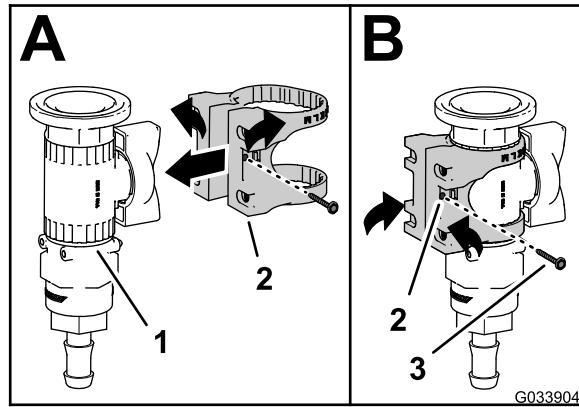

Figure 14
1. Assemble the valve mount onto the control valve as shown in A of Figure 14.
2. Secure the valve mount to the control valve with the flange-head screw (#6), and tighten the screw by hand (B of Figure 14).
3. Secure the valve mount to the control valve with the flange-head screw (#6), and tighten the screw by hand (B of Figure 14).